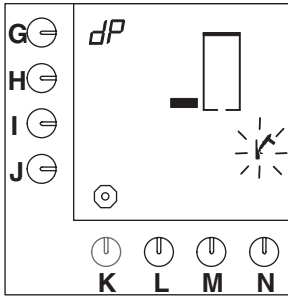

Fig. 24 First level descaling programme hot water system
- The first level block appears on the display and the hammer symbol flashes (fig.24).